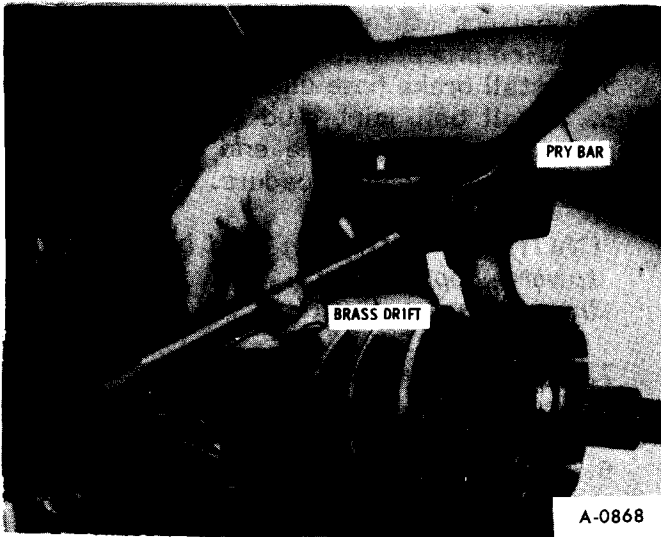

Figure 15—Removing Upper Ball Joint
4. Using a brass drift and hammer, and a pry bar, placed as in figure 15, loosen upper ball joint stud from knuckle. Remove upper ball joint from knuckle.
5. Using hammer and a drift (figure 15), drive on spindle until upper ball joint stud is disengaged from knuckle.